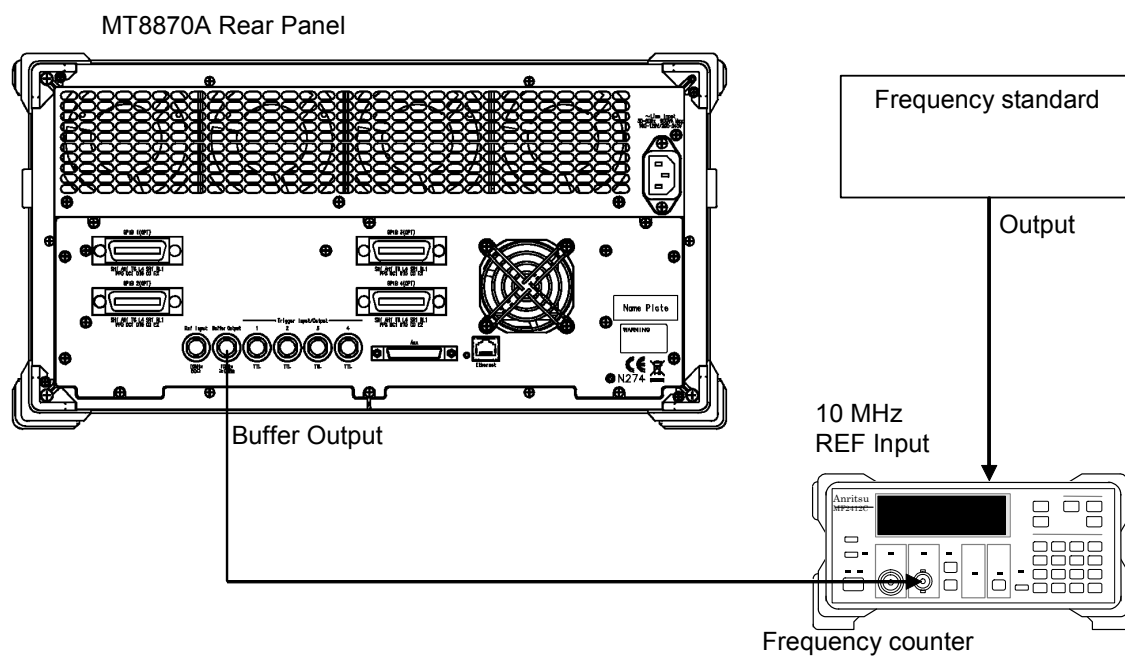

Figure 3.1.4-1 Setup for Reference Oscillator Frequency Stability Test
Connect each instrument as shown in Figure 3.1.4-1. Connect the 10 MHz Buffer Output connector on the rear panel of the MT8870A to the 10 MHz reference input connector of the frequency counter.
1. At setup, put only the MT8870A in the constant-temperature chamber (Figure 3.1.4-1). Set the chamber temperature to 25°C.